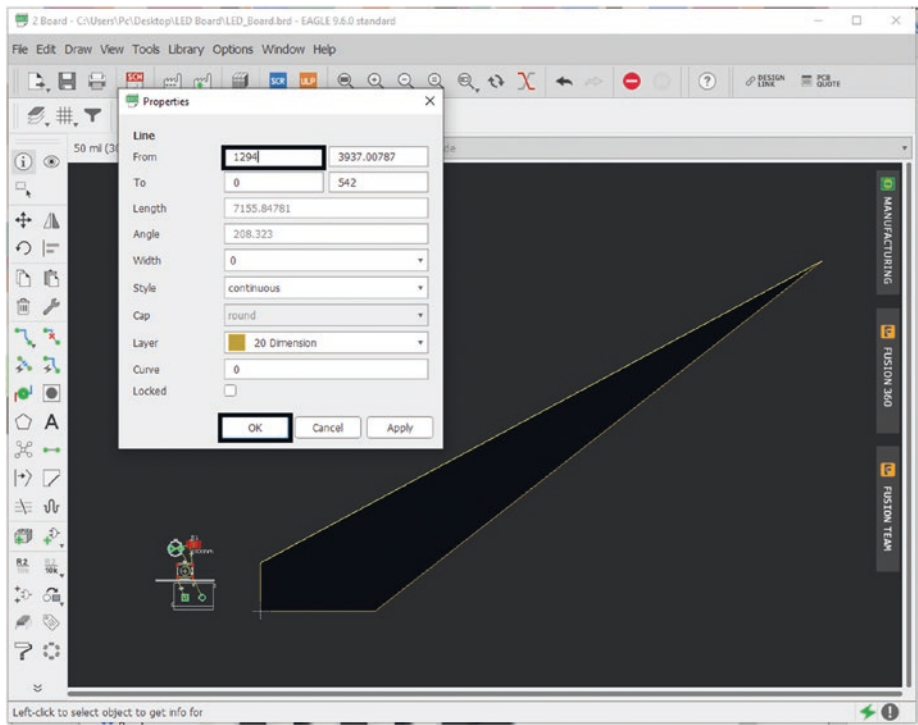

Figure 5-60. Update top horizontal line value
- 9. Type 1294 into the box right next to “From” and click “OK.” See Figure 5-60.